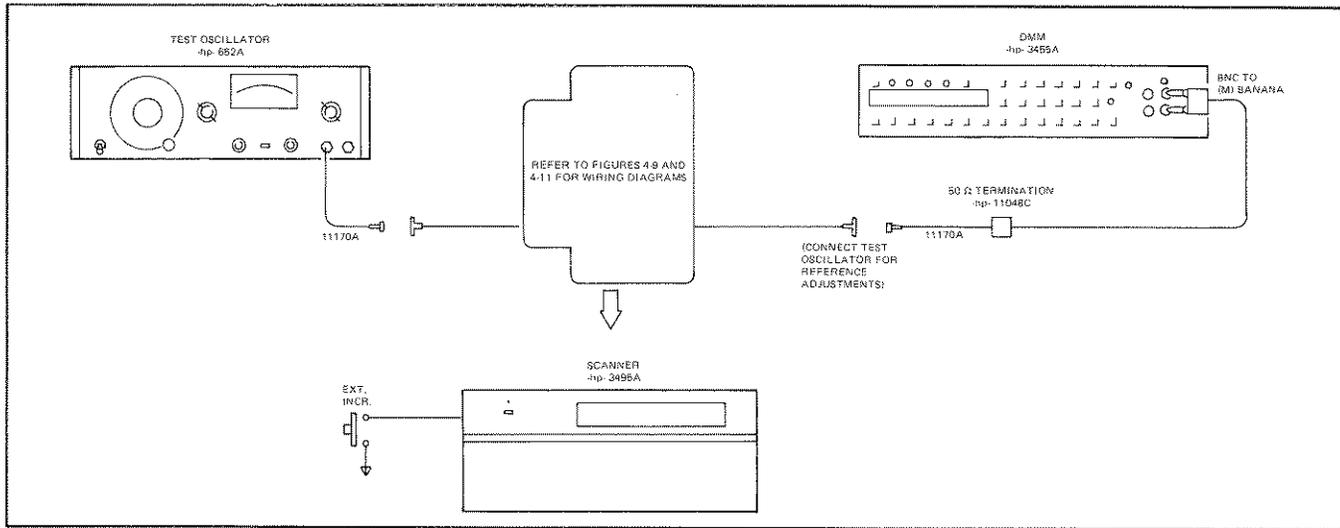

Figure 4-10. Frequency Response Test Setup.
- BNC-BNC Cable (2) (-hp- 11170A)
a. Connect the test setup as shown in Figure 4-10. Do not wire the connector at this time.
m. Reconnect the test oscillator to the scanner as shown in Figure 4-10.